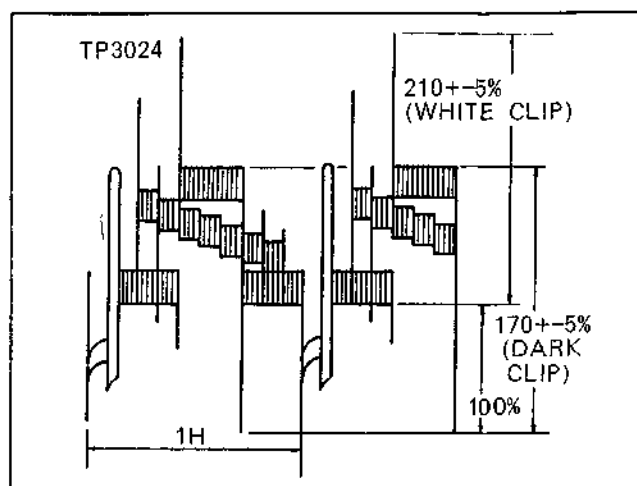

FIG. E10
5. Adjust VR3406 (WHITE CLIP) and VR3404 (DARK CLIP) respectively so that the A level of white clip is $210 \pm 5\%$ and B level of dark clip is $170 \pm 5\%$ as shown in FIG. E10.